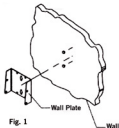

Fig. 1
Mount Wall Plate with supplied Wall Screws (4), and check fit. (Fig. 1) Leave Wall Screws protruding slightly so that Wall Plate can slide over screw heads for installation/removal of monitor.